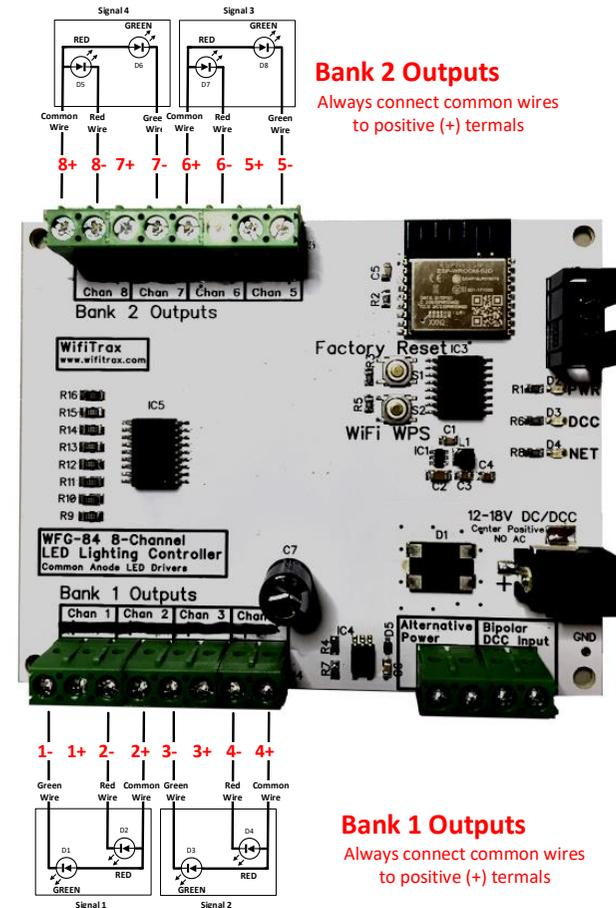
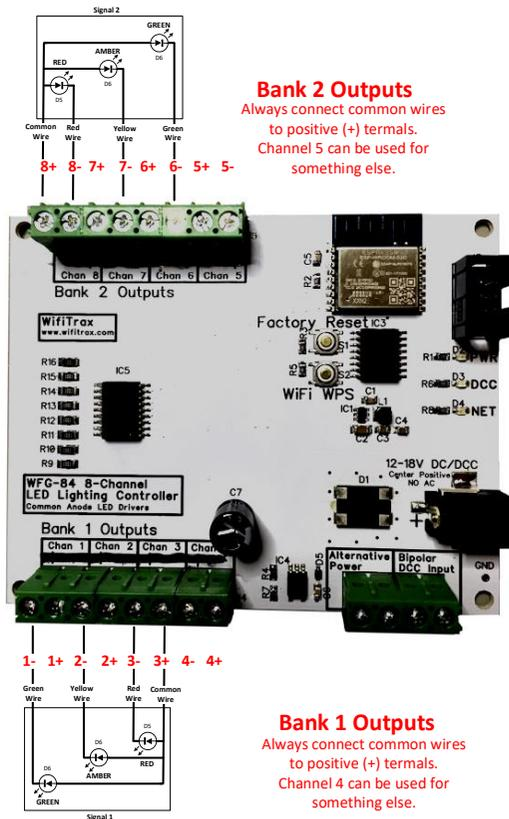

Figure 3. Connection Diagram for 2-LED Signals with Common Anodes
Figure 4. Connection Diagram for 3-Light Signals
Some signals may contain multiple LEDs such as Red and Green or Red, Amber and Green. Usually one side of each LED will be connected together and to a common wire. WFG-84 only supports LED groups with *Common Anodes*, i.e. the positive side is common. You can use the WFG-82 for those with common cathodes. See Figure 3 and Figure 4.
- (2) Wire the WFG-84 to your lights or signals according to Figure 2, Figure 3 or Figure 4. If you have multiple types of device, you can take account of more than one figure. Be sure to connect common wires to the positive side of each of the eight channels, i.e. the anode of the LED. In the LED circuit symbol, the cathode is the bar as in Figure 2.
- (3) The power adapter must supply between 12 and 18 Volts DC with a Barrel Plug (2.5mm I.D. x 5.5mm O.D. x 9.5mm). A recommended power adaptor is available from WifiTrax: